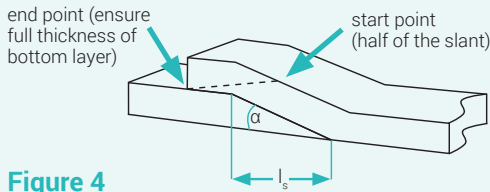

Figure 4
- Complete the installation by placing the sealing tape over the skived end and overlap approx. 14 mm of the sealing tape (figure 4).
- For the second skive cut identify and mark the start and end points (figure 4).